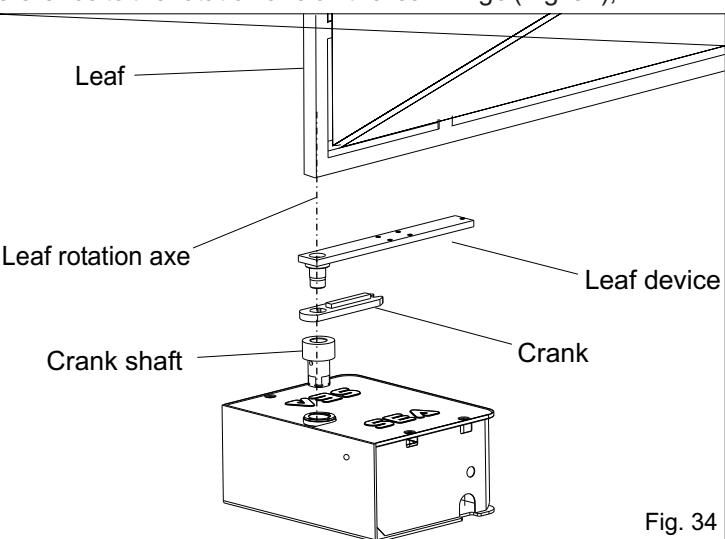

Fig. 34
11.1. Position the leaf of the gate on the leaf device making reference to the rotation axe of the leaf hinge (Fig. 34);